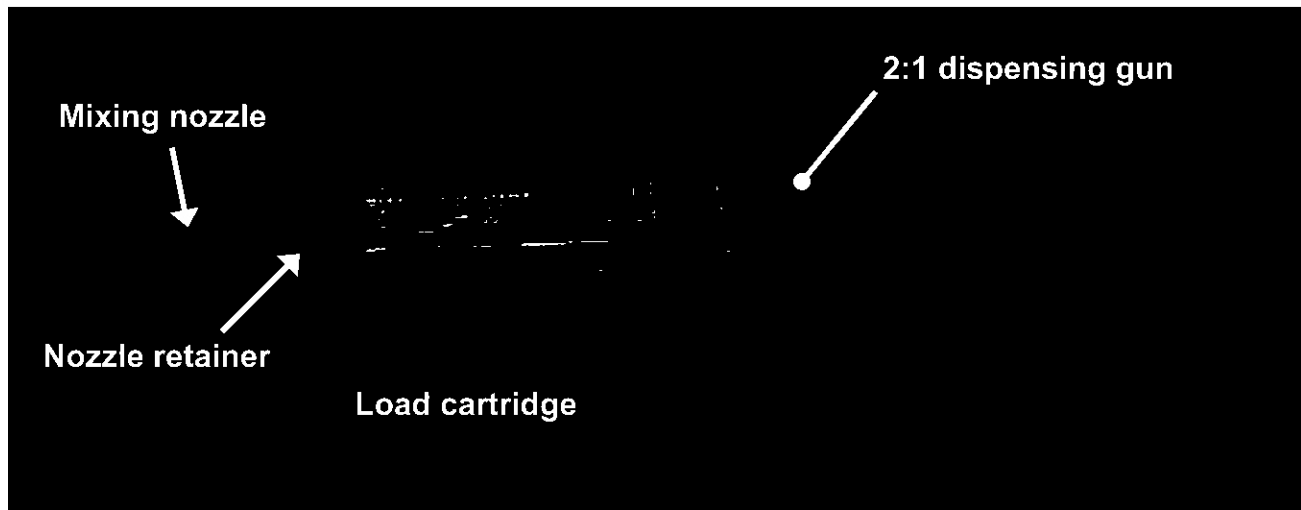

Figure 5
12. Prepare for application of LORD Fusor® 108B structural adhesive (see Figures 5 and 6).
- Make sure the nozzle retainer is installed (see Figure 5).